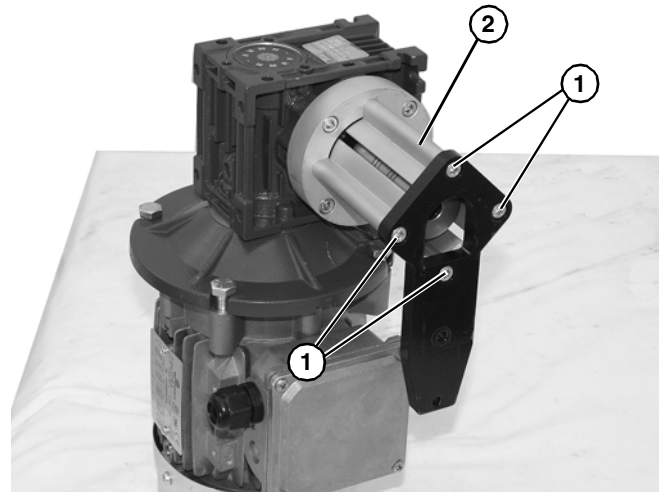

Figure 26
3. Remove four (4) screws (Figure 26, item 1) and remove mounting bracket & tube (Figure 26, item 2).
11. Attach mounting bracket & tube (**Figure 26, item 2**) to gearmotor. Tighten screws (**Figure 26, item 1**) to 103 in-lb (12 Nm).
7. Attach mounting bracket & tube (**Figure 26, item 2**) to gearmotor. Tighten screws (**Figure 26, item 1**) to 103 in-lb (12 Nm).